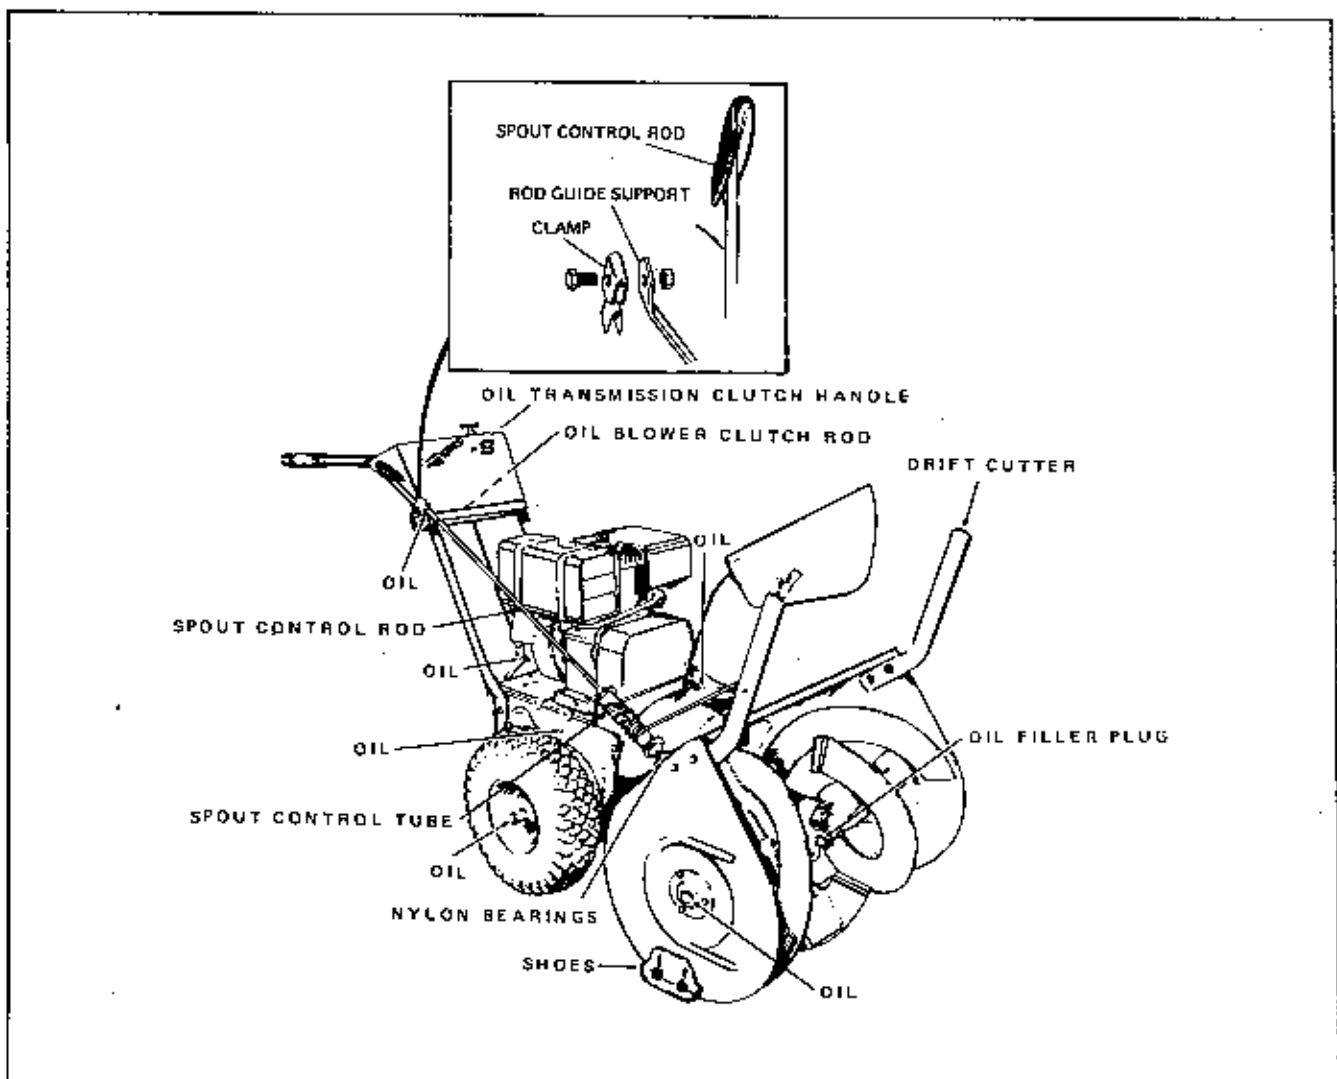

Figure 4.
7. Insert the spout control tube into the nylon bearing on the body assembly as shown in Figure 4, and secure with (2) 1/8" x 3/4" long cotter pins. Insert the spout control rod in the spout control tube and secure with (1) 1/8" x 3/4" long cotter pin.
The end away from the operator passes over the top of the tube as shown in Figure 4. In order to insure tightness of the spout cable, it is helpful to slant the control tube slightly inboard in relation to the rod guide support as shown in Figure 4. Position the free ends of the cable around the spout and clamp securely with the cup washer, 5/16" lockwasher and 5/16"-18 full hex nut. Move the spout control rod back to the rod guide support and secure with the clamp liner, 5/16"-18 x 1-1/4" cap screw and 5/16"-18 lock nut. Tighten securely to permit spout control rod to be turned with slight pressure applied.
4. The upper end of the spout control rod #5, Fig. 4, is fastened to the spout control rod support bracket #1, Fig. 4 using the rod guide #4, Fig. 4, with plastic liner and one 5/16"-18 x 1-1/2" hex cap screw and 5/16"-18 hex nut.